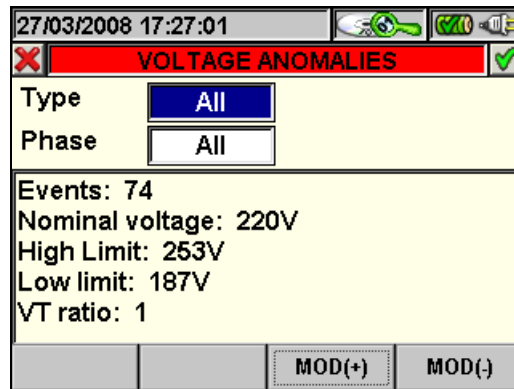

Fig. 112: Voltage Anomalies
- The **F2** key (or the **PARAM** item on the display) accesses the page showing the settings for voltage anomalies (Fig. 112).